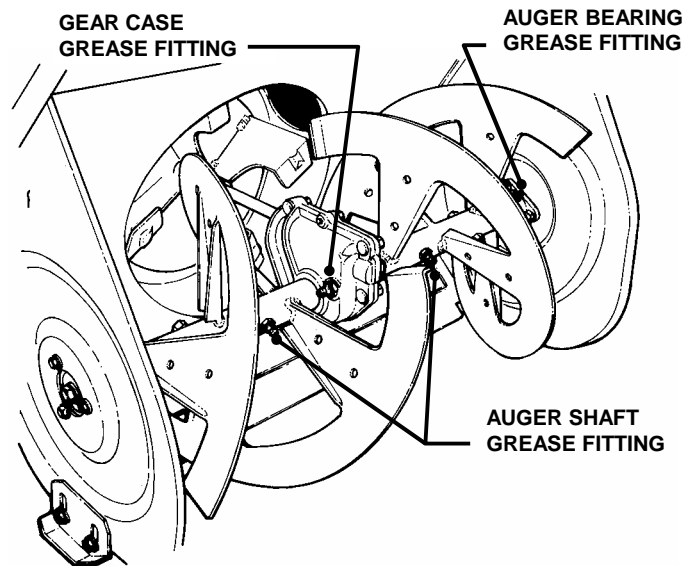

FIGURE 3.2
1. Before each season of operation, apply two shots of grease (Snapper suggests using Benelene 900) from a grease gun into gear case. The grease fitting for the gear case is located in front of the gear case. See Figure 3.2.
2. Before each season of operation, apply two shots of grease (Snapper suggests using Benelene 900) from a grease gun into auger bearing. The grease fitting for the auger bearing is located on each end of the auger. See Figure 3.2.
3. Before each season of operation, apply two shots of grease (Snapper suggests using Benelene 900) from a grease gun into the auger shaft. The grease fitting for the auger shaft is located in the middle of each auger. Remove shear bolts and rotate auger to distribute grease evenly around shaft. Reinstall shear bolts and nuts. Tighten to 5 to 10 ft. lb. of torque. See Figure 3.2.